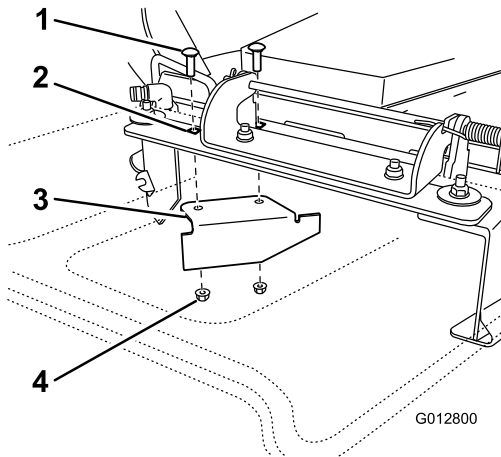

Figure 1
5. Locate the cut off baffle at the side discharge opening on the mower deck (Figure 1).